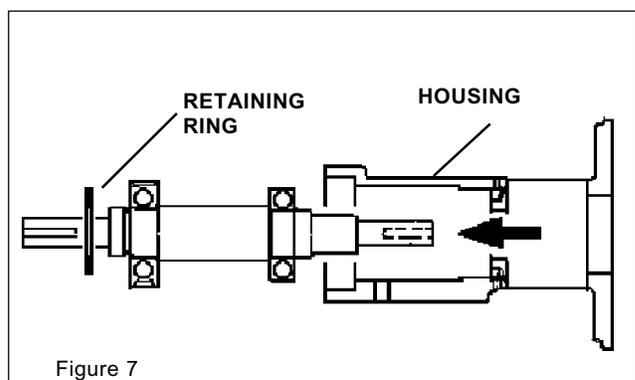

Figure 7
3. Push the shaft and bearing assembly out of the housing from the impeller end. (Figure 7)
4. Remove the retaining ring and press the bearings off the shaft. (Figure 7)